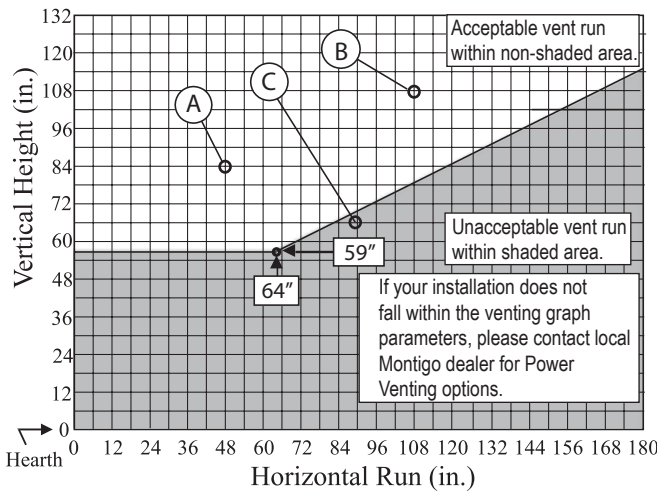

Figure 14. H38C* & HL38C* Rear Vent Venting Graph for wall mounted terminations.
NOTE: REAR VENT APPLICATIONS MUST HAVE A 59" VERTICAL RISE. THEY CANNOT TERMINATE STRAIGHT THROUGH THE WALL, see figure 14 or 14a.
- Venting runs *must* fall within the limits set by the venting graphs, see **Figure 14 or 14a**.
Measure the vertical height from the fireplace hearth to the centre of the termination and the horizontal run from the fireplace flue collar to the wall flange of the termination. Plot on the Venting Graph **Figure 14 or 14a** with an 'X'.
Figure 15. H38C* & HL38C* Rear Vented, wall mounted multi-elbow termination installation. The vent run must comply with the Venting Graph for Rear vent, wall mounted terminations, Figure 14.